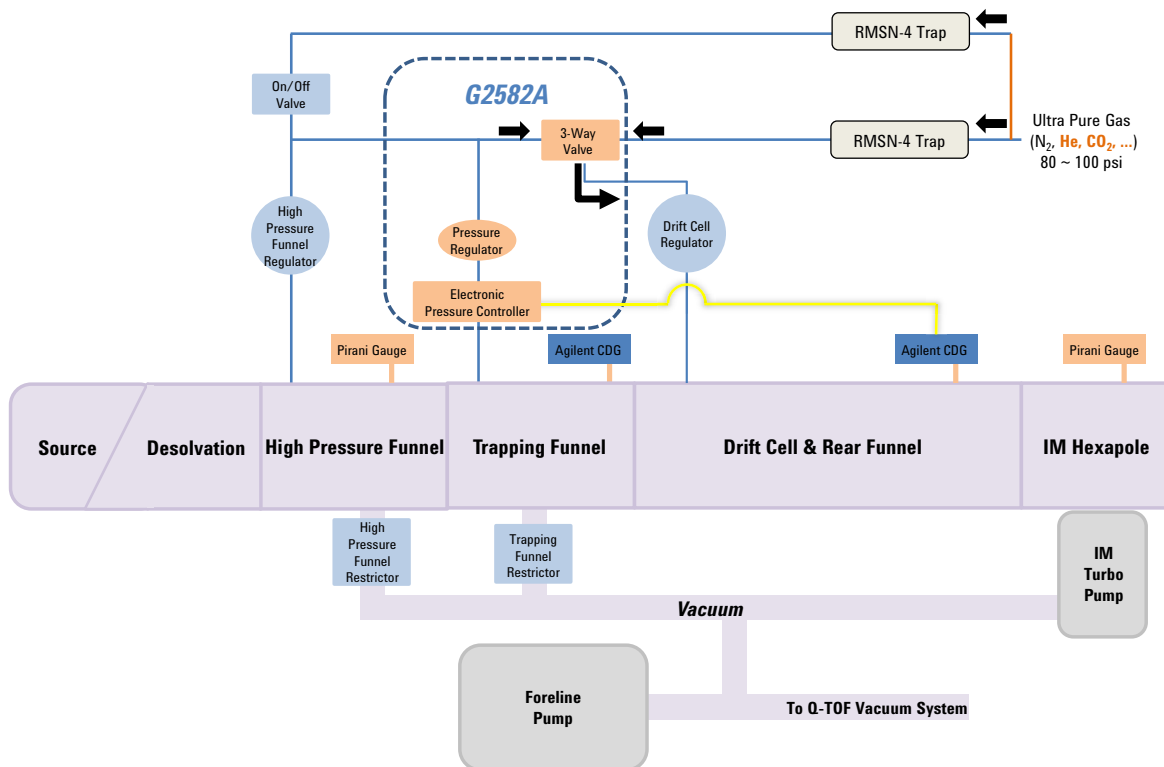

Figure 6 Gas plumbing for the IM section of the IM-QTOF instrument to use an alternative Drift Gas
- 2 Turn the 3-way valve to the High Purity Drift Gas position. See Figure 6.